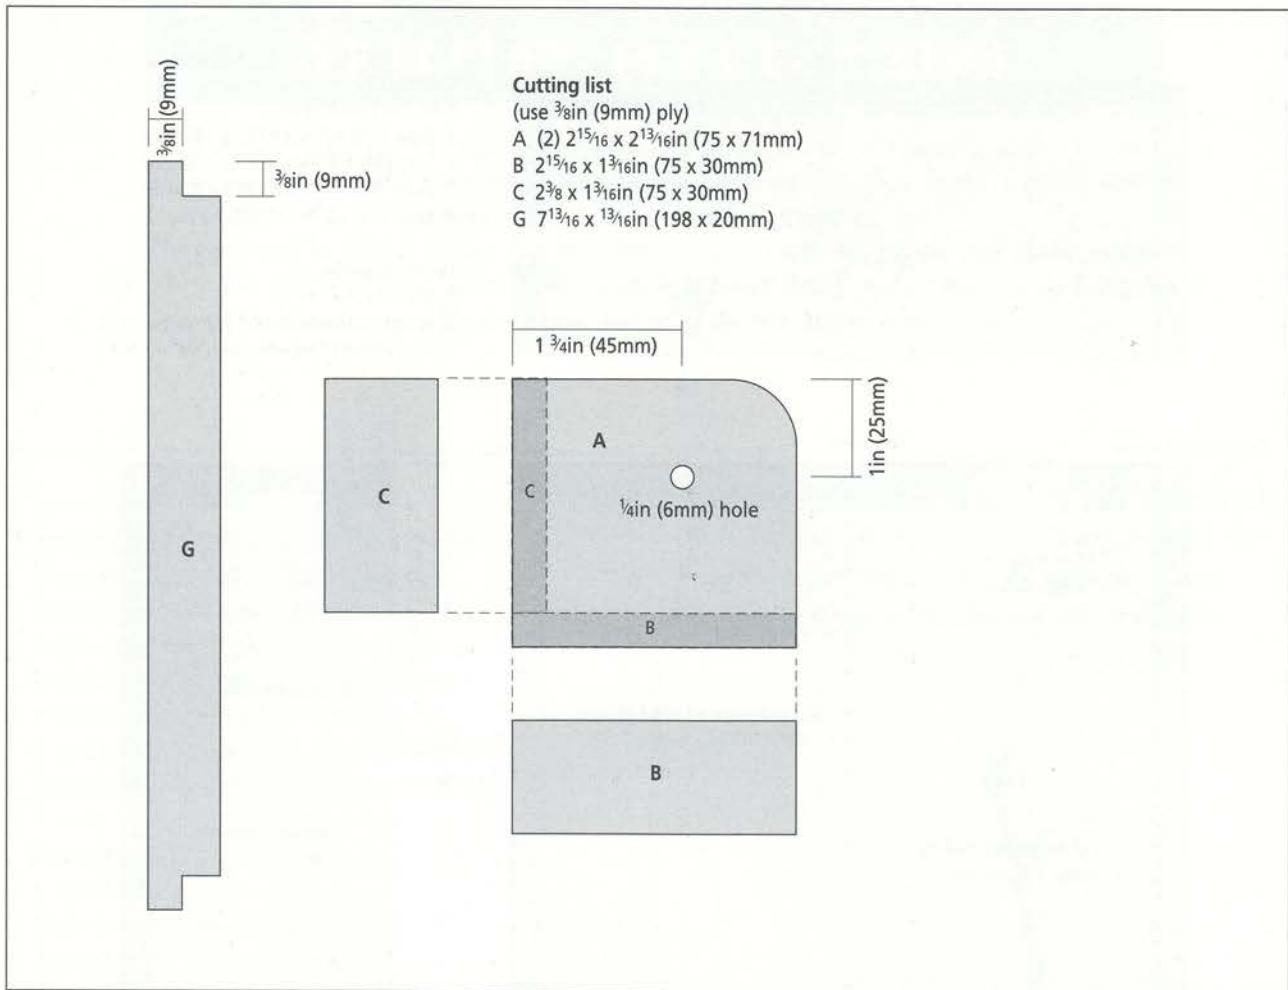
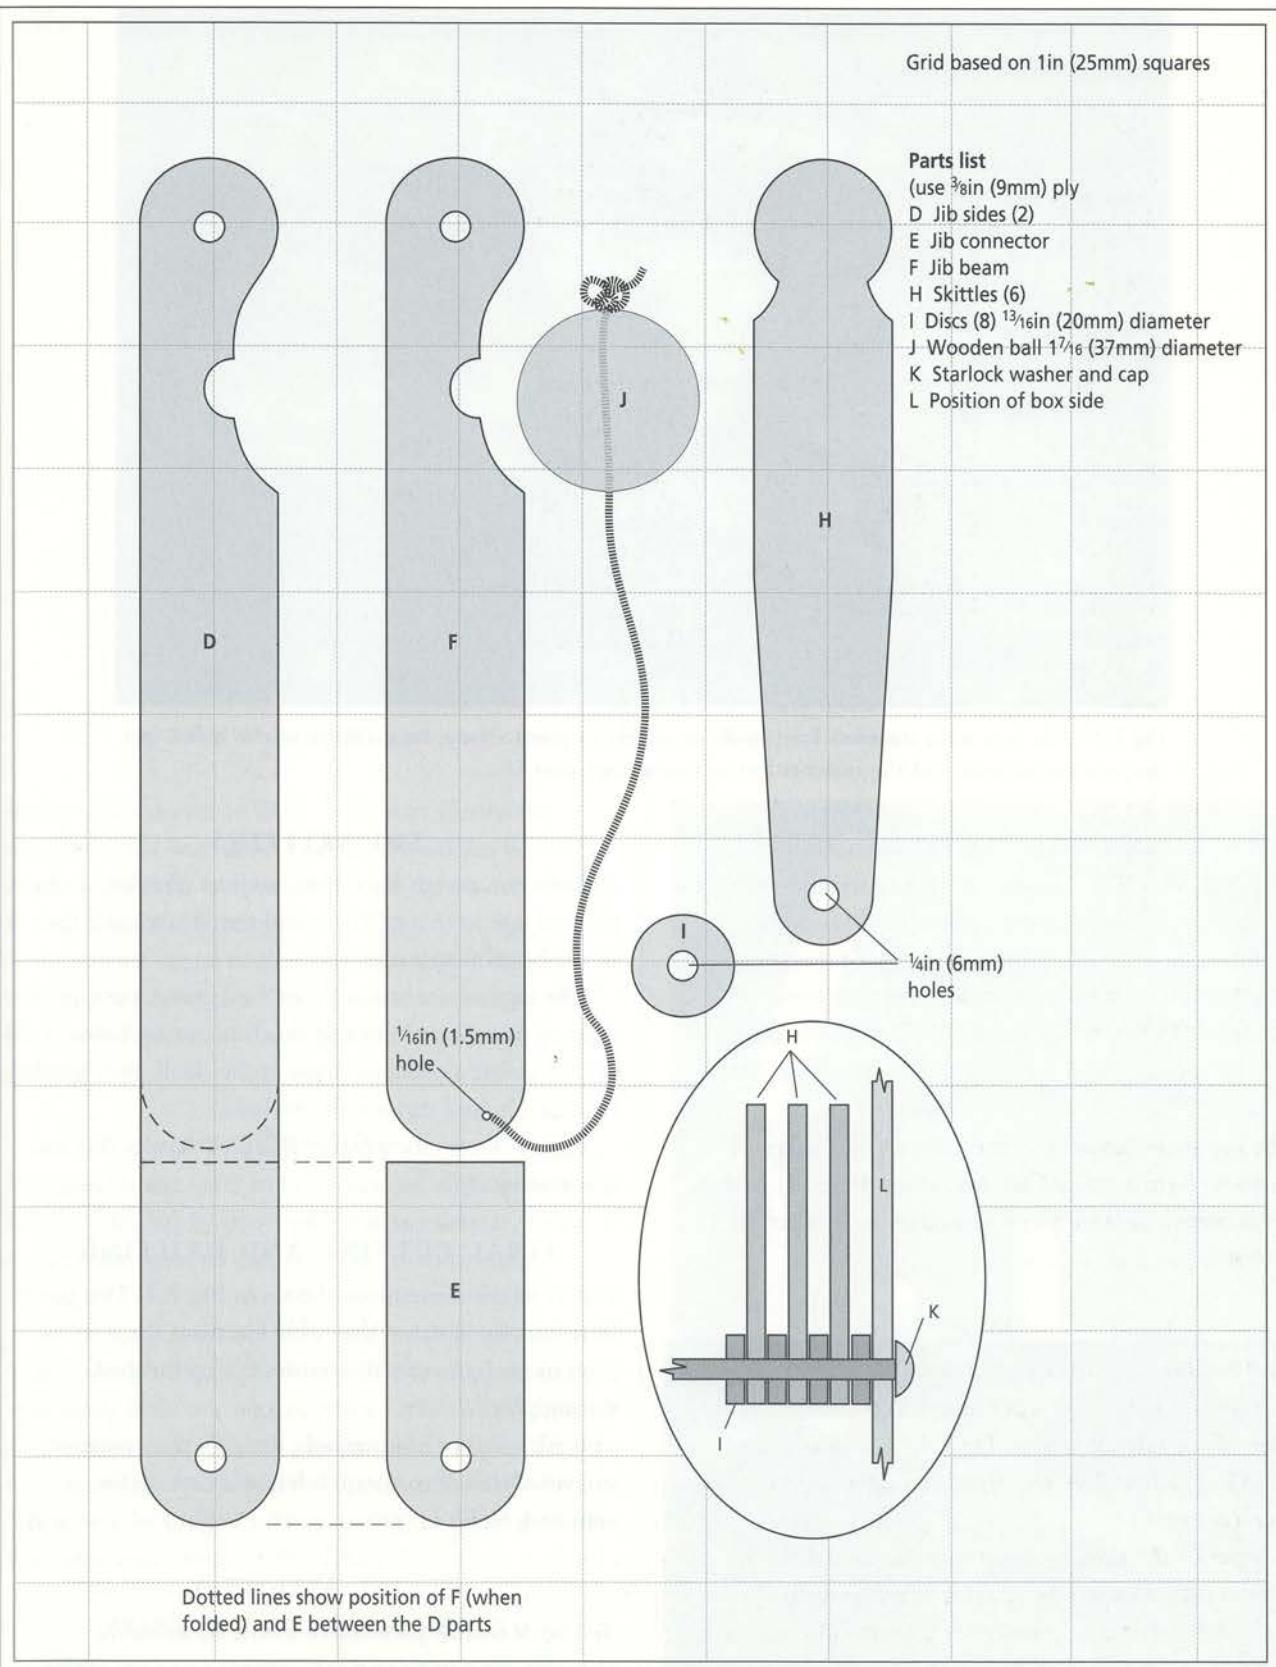
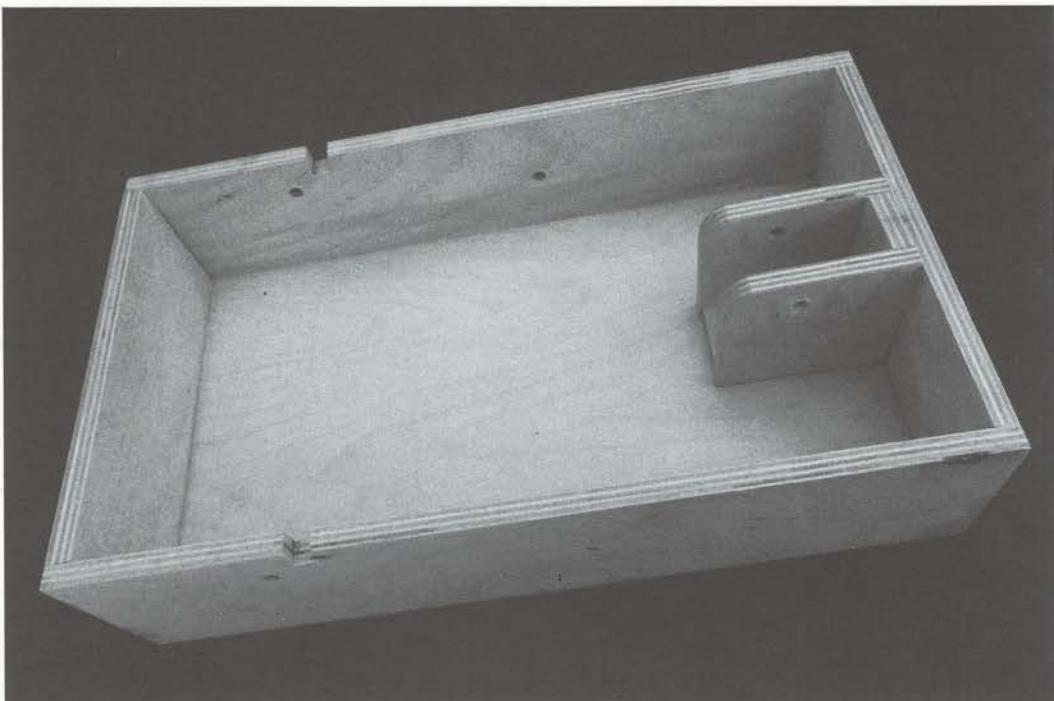
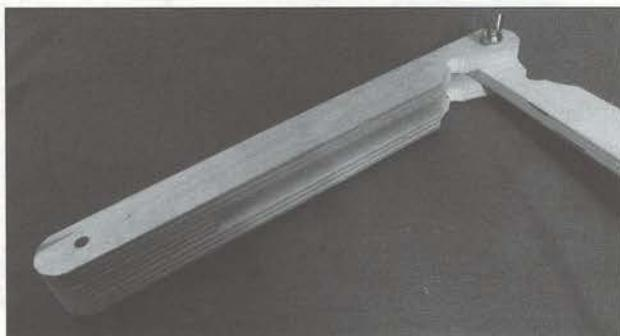

Fig 7.2 Cutting list for A, B, C and G.
Fig 7.3 Cutting list for D, E, F, H and I.
Fig 7.4 The box with the base for the jib assembly in place. Note the position of the holes for the two metal rods and the notches cut out to accept part G.
Fig 7.5 Part F fits between the two D parts.
Transfer the dimensions of parts A, B and C from Fig 7.2 to ply. Then enlarge (with the grid) and trace parts D, E and F from Fig 7.3 and transfer these to the ply.
Drill the $\frac{1}{4}$ in (6mm) holes in A. These holes take the $2\frac{1}{4} \times \frac{1}{4}$ in (57 x 6mm) bolts on which the jib is assembled. Sand smooth all parts. Glue and pin parts B and C between the A parts in the positions shown in Fig 7.2. Allow the glue to dry. When the glue has dried, glue and screw the jib base to the box in the position shown in Fig 7.1. Fig 7.4 shows the box with the jib base in place.
Drill a $\frac{1}{16}$ in (1.5mm) hole in F as shown in Fig 7.3. This hole accepts a length of string to which a wooden ball is attached. Drill a $\frac{1}{4}$ in (6mm) hole in the base of F to take a $1\frac{3}{8} \times \frac{1}{4}$ in (35 x 6mm) bolt and wing nut, which allows F to fold between the jib sides (D) when the toy is packed after play. Part F is fitted (after painting) between the jib sides (see Fig 7.5).
Cut G to the dimensions shown in Fig 7.2. This piece slots into the notches that were cut from the sides of the box and prevents the skittles falling forward during play.
in the order shown in Fig 7.3. Fit part G into the notches in the box sides. Lean all the skittles forward onto G and then temporarily attach the wooden ball to F with a length of string.